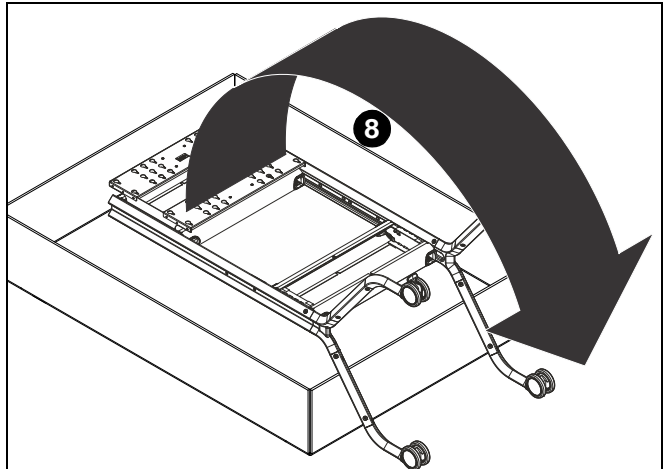

Figure 6
8. Remove cart from box by tipping it from the top onto its wheels. (See Figure 6)